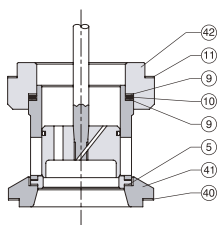
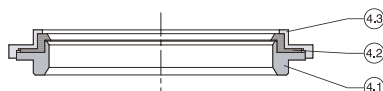

Fig. 4 - Reduced bore.
Fig. 5 - Soft seal.
7. Remove the body gasket (11). For reduced bore (Figure 4), remove the cage adapter (42).
8. Remove the cage (7) with the spiral wound (10) and the cage gasket (9).
9. Remove the seat (4) and the seat gasket (5). In case of soft seal (figure 5) the seat is compounded of superior seat (4.3), seat ring (4.2) and inferior seat (4.1).
10. For reduced bore (figure 4), remove the seat adapter (41) and the seat adapter gasket (40).
11. Remove the packings (17) and other bonnet internal components, by one of the following procedures:
- In case of V-shaped PTFE packings, use a stem or stick to force the spring (10) in order to enforce the components to leave out by the bonnet superior extremity.
12. If the body with loose flanges removal is need, grind the punched point in the body (1) at flange back (2) and slide the flange (2) towards the body (1) to release the two-pieces rings (3).
7. Remove the seat (4) and the seat gasket (5). In case of soft seal (figure 5) the seat is compounded of superior seat (4.3), seat ring (4.2) and inferior seat (4.1) (figure 5).
8. Remove the packings (17) and other bonnet internal components, by one of the following procedures:
9. If the body with loose flanges removal is needed, grind the punched point in the body (1) at flange back (2) and slide the flange (2) towards the body (1) to release the split ring (3).
2. For bore valves (figure 4), install the seat adapter gasket (40) and the seat adapter (41).
3. Install the seat gasket (5) and seat (4) or, for soft seal valve (figure 5), the inferior seat (4.1), seat ring 4.2) and superior seat (4.3).
4. Assemble the cage (7) on the body (1). Be sure the cage is properly assembled on the seat. Any cage rotary position regarding the body is acceptable.
5. Put the cage gasket (9), spiral wound (10) and body gasket (11) on the cage. For bore valve (figure 4), put the cage gasket (9), spiral wound (10) and another cage gasket (9) on the cage. Assemble the cage adapter (42) and put the body gasket (11) on the cage adapter.
6. Replace the seal ring (13), if there is visible damage. Take care not to scratch the seal ring surfaces (13) or the ring housing channel in the plug (6). If this instruction is not followed, it is impossible to attain proper sealing. For seal ring in PTFE, firstly install the metallic lamina (12). The 85-20, 85-21, 85-70 and 85-71 valves do not have seal ring.
7. In case of stem replacement, thread the new stem (16) in the plug (6) until the thread end. It should be really tightened. Make another bore for the pin (8) through the plug (6) and the stem (22) using the obturator bore (6) as a guide. Install a new pin (8) and lock it.
3. Install the seat gasket (5) and seat (4) or, for soft seal valve (figure 5), the inferior seat (4.1), seat ring (4.2) and superior seat (4.3).